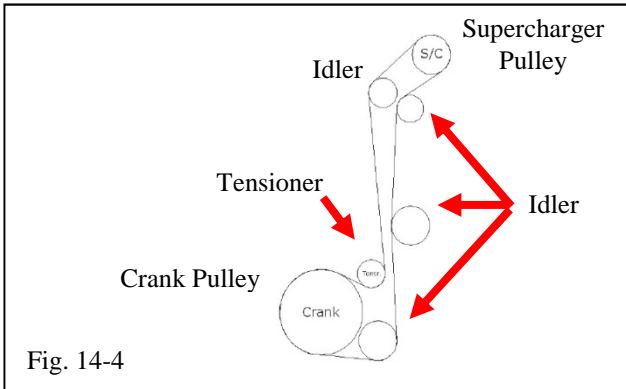

Fig. 14-4
- (g) Finish installing the supercharger belt drive, making sure the routing is correct (Fig. 14-4).